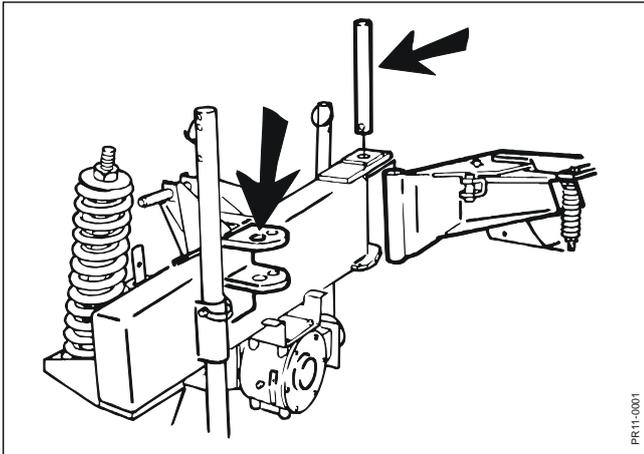

Fig. 2-1
- Fig. 2-1:** Mount the headstock to the machine with a pin which is locked with a special pin.